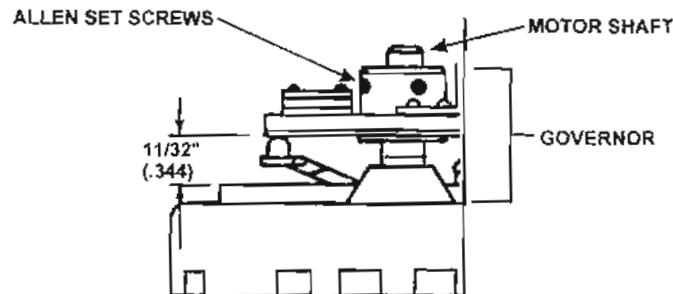

Figure 3-7. Governor removal.
- (5) Close and latch the cover.
- (6) Place a clean, soft cloth on your workbench and then turn the centrifuge over and set it on its cover.
- (7) Remove the four slotted screws fastening the four rubber feet and base plate. Set them aside.
- (8) Loosen the Allen set screws fastening the governor to the motor shaft (fig 3-7).